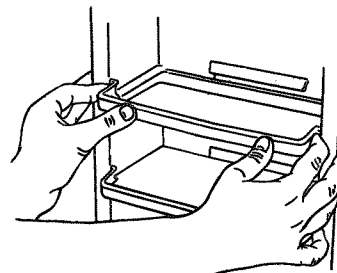

Figure 33
- Press ends of retainer bar towards center and pull retainer bar straight out. See Figure 33.